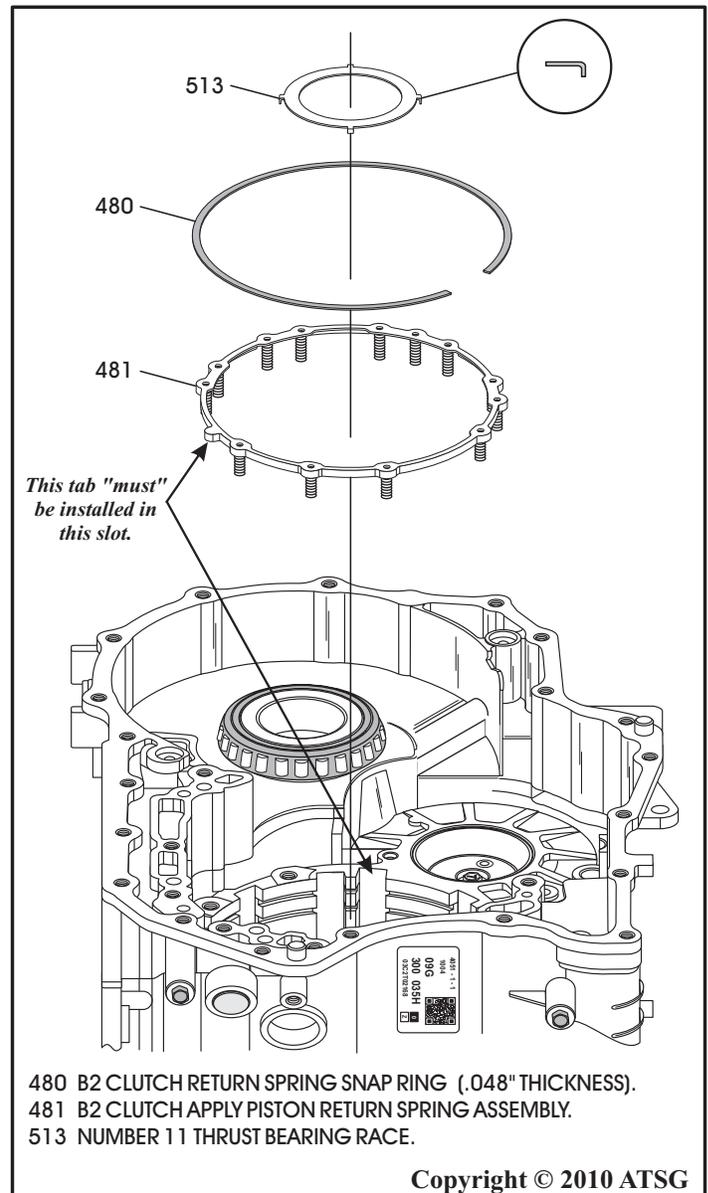

Figure 94
10. Install the B2 clutch return spring assembly, as shown in Figure 94.
Note: The return spring assembly must also be oriented properly, as shown in Figure 94. Ensure that each of the springs are properly seated on the tabs and over the centering cones.
11. Compress the return spring and install the snap ring, as shown in Figure 94, and ensure it is fully seated in the case groove.
12. Install the number 11 thrust bearing into rear of case, as shown in Figure 94, and retain with a small amount of Trans-Jel®.